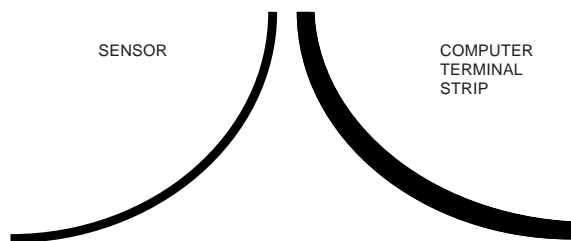

FIGURE 1
- Step 2.** At the sensor junction box, leave the insulation on the end of the three (3) conductor wires that run from the computer terminal strip to the sensor junction box.
- Step 3.** Match the proper wires together. Check the installation and wiring instructions for specific probe or sensor being used. (See figure 1).